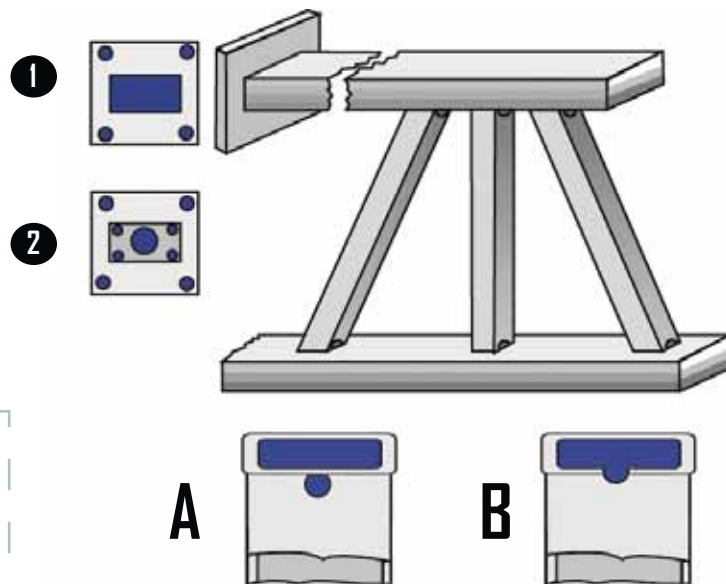

Figure 14: Holes at either end of the rectangular tube trusses should be completely open
Rectangular Tube Truss (Figure 14):
Hole locations for the vertical members should be as shown in Figure 14 on Examples A and B.
- 2 From Figure 14, if $H + W = 24"$ (61 cm) or larger, the area of the hole, plus clips, should equal 25% of the area of the tube ($H \times W$).